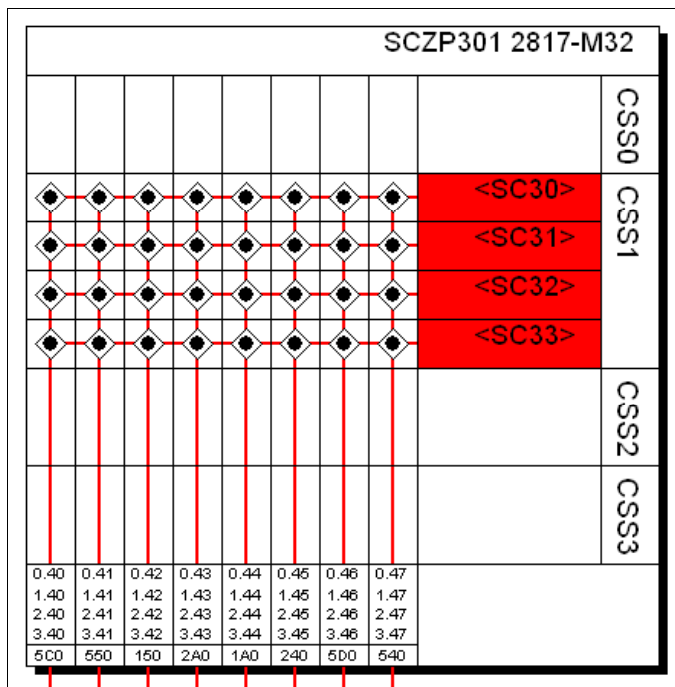

Figure 5-12 HCM Processor display
3. Double-click the required processor in the list (for example SCZP301). See Figure 5-12.